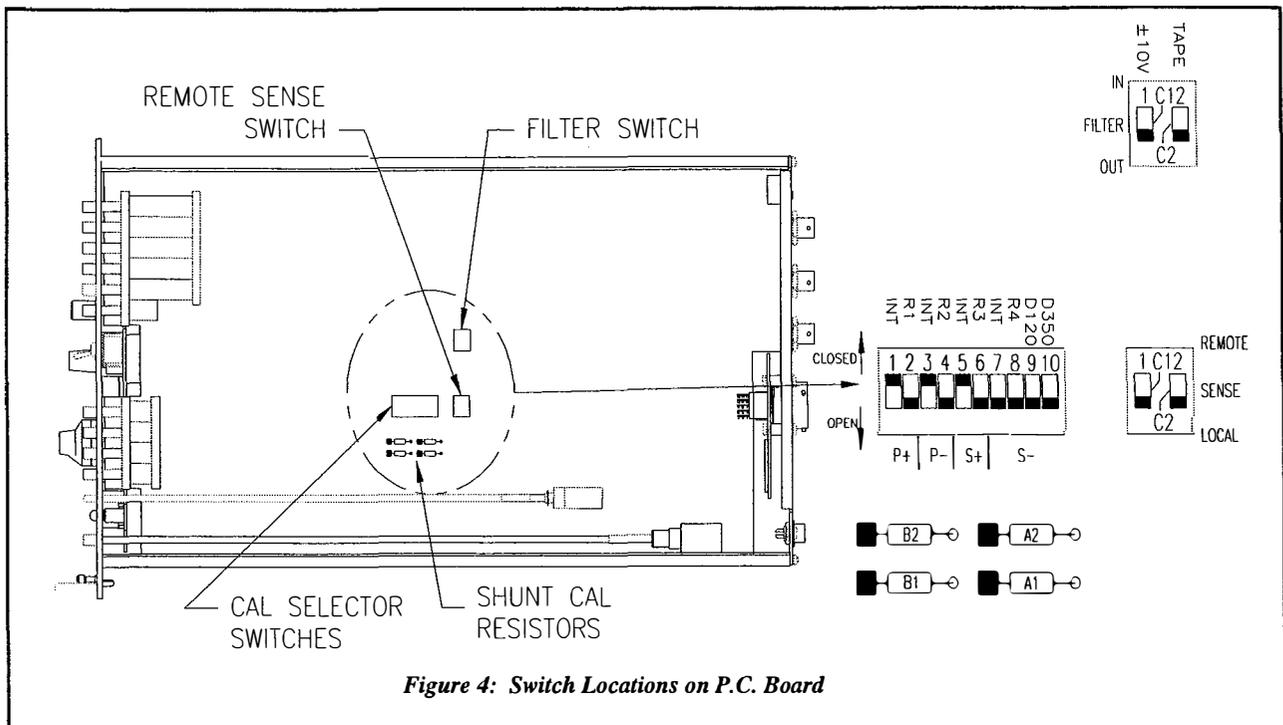

Figure 4: Switch Locations on P.C. Board
4.2c When using an external full bridge (especially a precision transducer), it may be desirable to employ the remote-sense circuitry provided in the 2310B to maintain constant excitation at the transducer regardless of lead resistance. To enable this circuit, open the right side-cover of the 2310B and raise the small red SENSE switch to REMOTE (see Figure 4). Connect the sense leads between the transducer and pins F and G of the INPUT plug as shown in Figure 2, C2.
The filter can affect either one or both of the outputs. To select the outputs to be filtered, open the right side-cover of the 2310B and note the two toggles on the red FILTER switch (near the top of the p.c. board) marked ±10V, and TAPE; this switch is shown in Figure 4. Any toggles in the IN (up) position indicate that that output will be filtered when any FILTER button other than WB is depressed; outputs for which the toggle is in the OUT (down) position will still be operating at wide-band. Filter characteristics are discussed in 4.13 Filter.